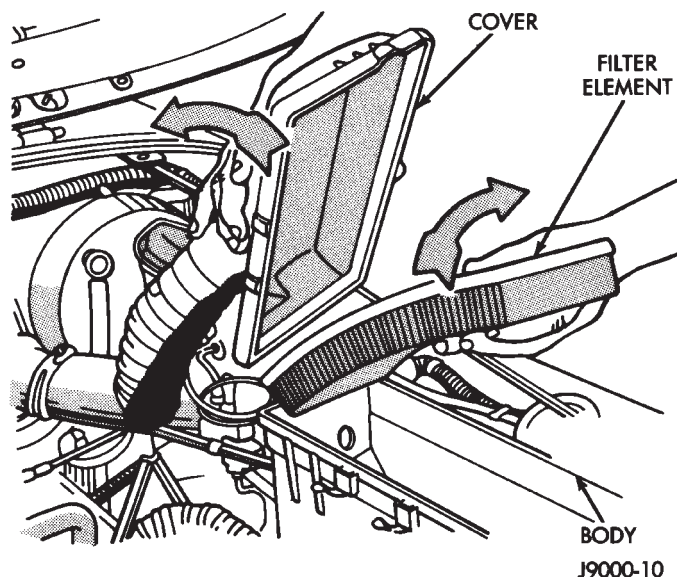

Fig. 9 Air Cleaner & Filter Element—2.5L and 4.0L Engines
(1) Remove the air cleaner cover from the body/housing (Fig. 9).
(2) Remove the air cleaner filter element from the body/housing.